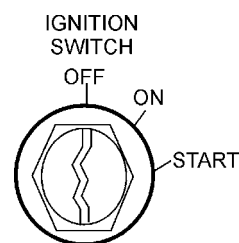

Figure 10. Ignition Switch
4. Insert the ignition key into the ignition switch (Figure 10). Turn the key to the ON position then to the START position. Release the key when the engine starts.
2. Insert the ignition key into the ignition switch (Figure 10), turn the key to the ON position.
4. Turn the ignition switch (Figure 10) to the OFF position to shut down the engine.
3. Turn the ignition switch (Figure 10) to the OFF position.